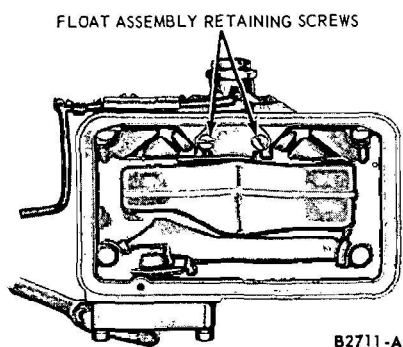
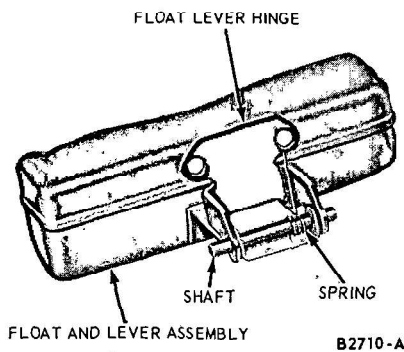

FIG. 13—Float Assembly Removal or Installation—Holley 4-V
FIG. 14—Float Assembly—Holley 4-V
6. Remove the screws securing the float assembly to the fuel bowl (Fig. 13). Remove the float assembly.
7. Slide the shaft out of the float assembly and remove the spring (Fig. 14).
5. Position the float hinge bracket on the float arm and install the float shaft and spring (Fig. 14). Secure the float assembly to the fuel bowl with the retaining screws (Fig. 13).